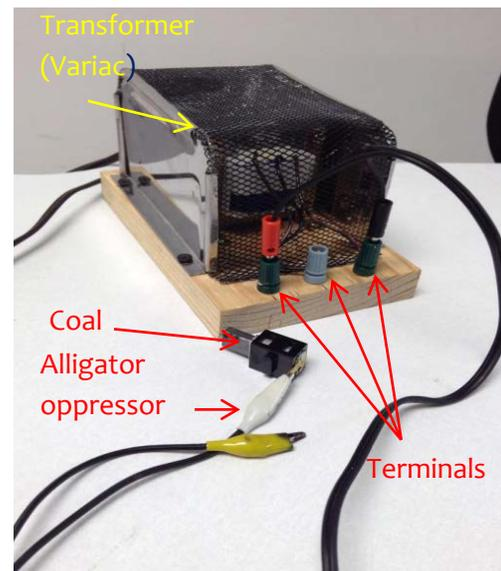

Figure 3: Connection between transformer and thermocouple cable.
4. By plugging the two alligator oppressor cables on the side terminals, together there are 24 V. By plugging one alligator oppressor on the side terminal and one in the middle terminal, together there are 12 V. Put a coal on one alligator oppressor and on the other alligator oppressor connect an end of the thermocouple (see Figure 3).